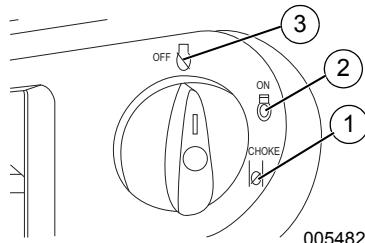

Figure 3-2.Off/Run/Choke Positions
1. See **Figure 3-2**. Rotate the Off/Run/Choke switch to CHOKE (1).
4. See **Figure 3-2**. When engine starts, rotate Off/Run/Choke dial to RUN (2). Choke operation is reduced as Off/Run/Choke dial is rotated towards RUN.
3. See **Figure 3-2** Rotate Off/Run/Choke dial to OFF (3).
1. See **Figure 3-2**. Turn Off/Run/Choke dial from OFF to RUN. This will open the fuel valve and permit starting.